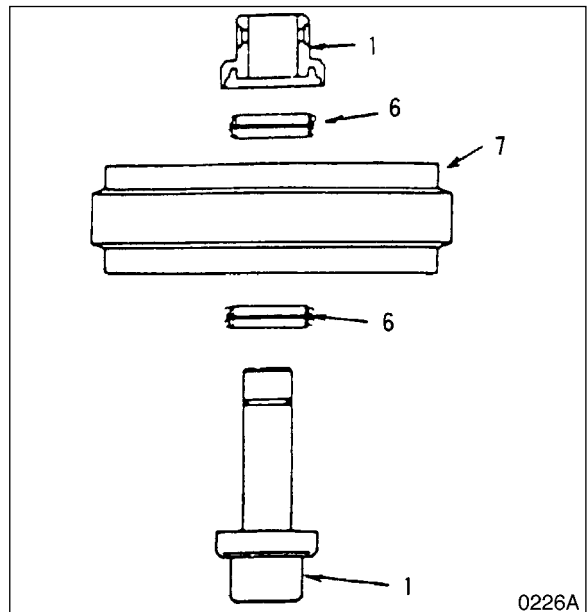

Figure 24
4. Detach the group seal (6, Figure 24) from the idler (7) and bearing (1).